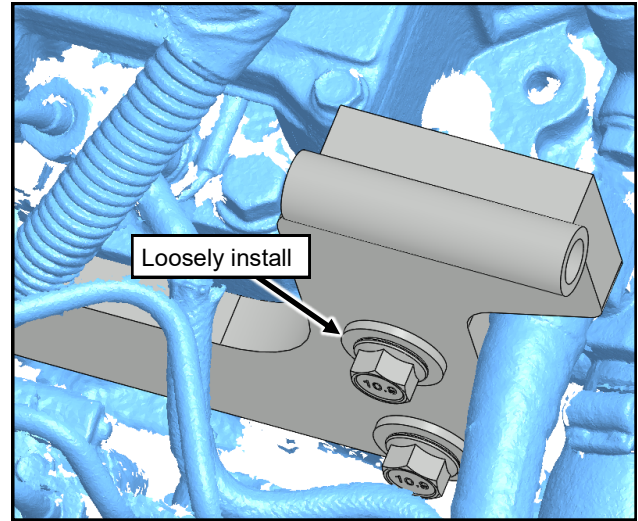

Fig. 1.37 (Loosely install second M8x1.25 x 25 screw)
1.37 With a fender washer and supplied red Loctite, loosely thread in an M8x1.25 x 25 hex screw into the hole shown in Figure 1.37.